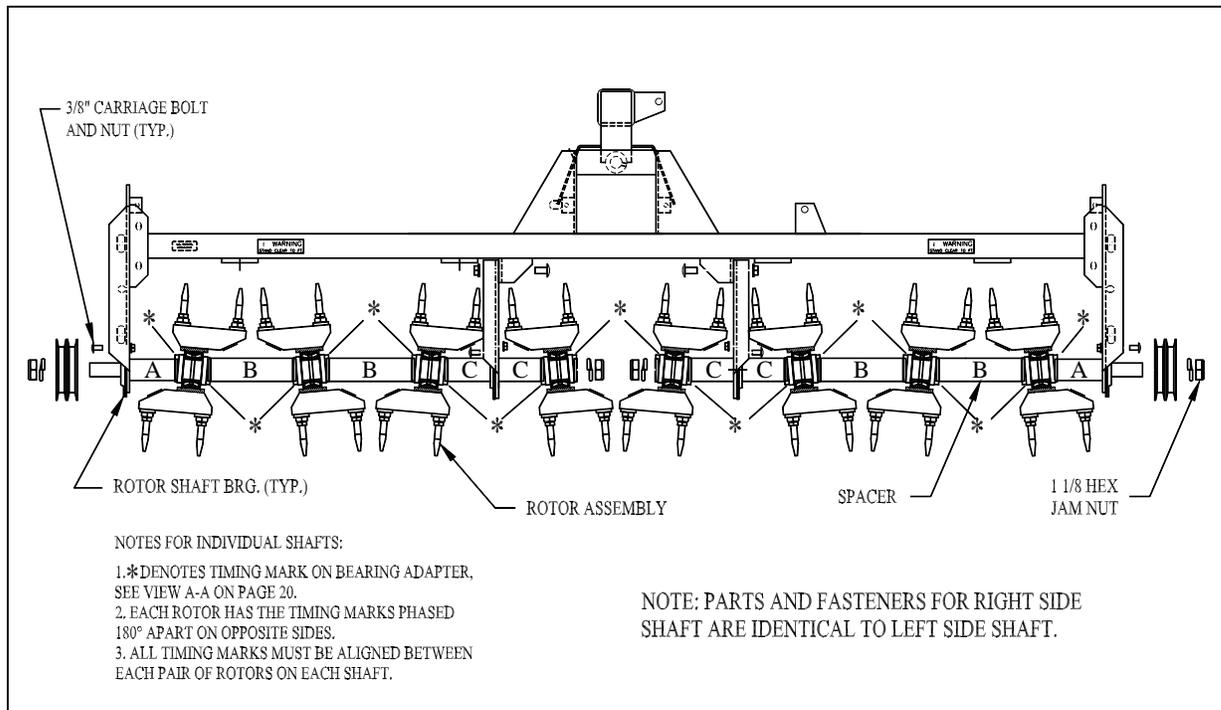

Figure 6. Rotor Shaft Assembly
3. Remove 3/8" carriage bolts holding end rotor shaft bearing, drive end. (See Figure 6)
1. Rotate the adapters in each rotor so the timing marks (See Figures 6, 10 & 11) are phased 180 degrees apart with hex bores aligned.